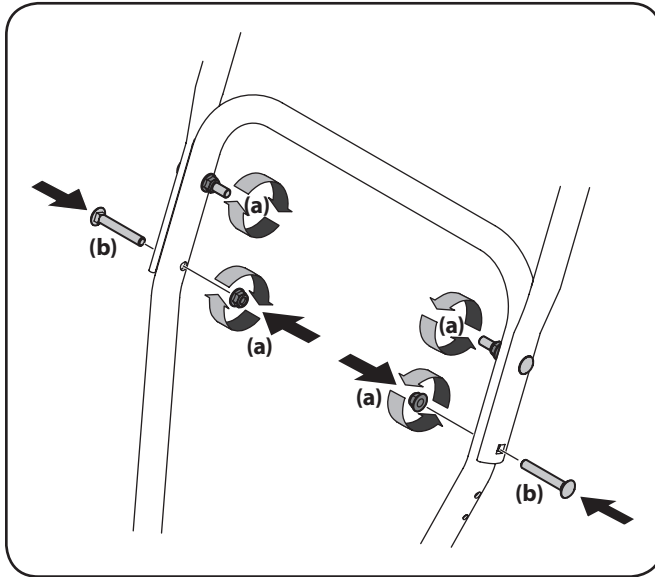

Figure 3-4
5. Reattach the two carriage screws (b) and lock nuts (a) removed earlier as shown in Figure 3-4.